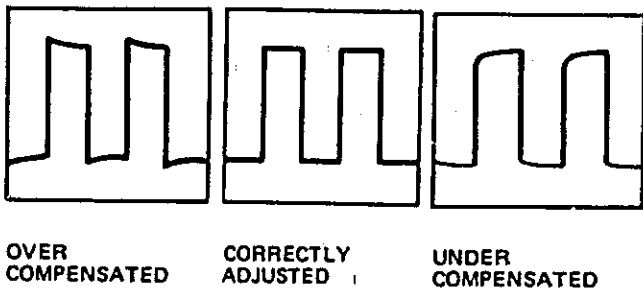

Figure 3-2. Divider Probe Adjustment Display
- g. Adjust divider probe compensation for correct display (figure 3-2).